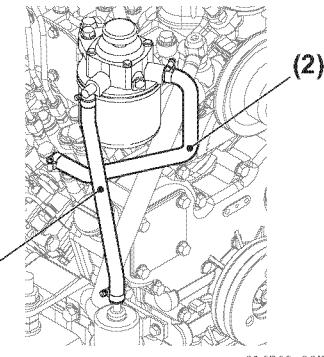

Figure 5-200
71. Install the fuel pipe (fuel feed pump-fuel filter, fuel filter-fuel injection pump) (**Figure 5-200**).